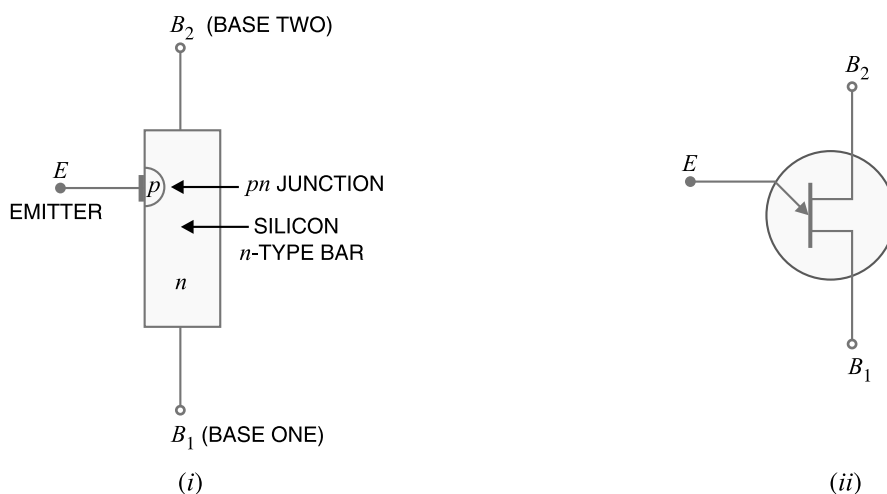

Fig. 19.25
**Construction.** Fig. 19.25 (i) shows the basic \*structure of a unijunction transistor. It consists of an *n*-type silicon bar with an electrical connection on each end. The leads to these
connections are called base leads *base-one*  $B_1$  and *base two*  $B_2$ . Part way along the bar between the two bases, nearer to  $B_2$  than  $B_1$ , a *pn* junction is formed between a *p*-type emitter and the bar. The lead to this junction is called the *emitter lead*  $E$ . Fig. 19.25 (ii) shows the symbol of unijunction transistor. Note that emitter is shown closer to  $B_2$  than  $B_1$ . The following points are worth noting :